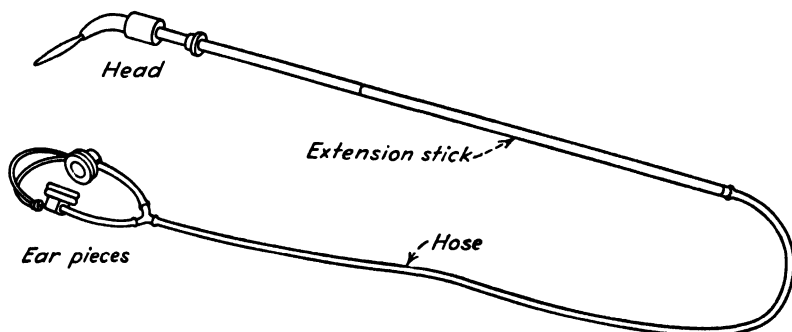

FIG. 21-12. Telephonic-type live pin-type insulator tester showing head, extension stick, hose, and earpieces. (Courtesy Doble Engineering Co.)
**Pin-type Tester.** The pin-type tester is illustrated in Fig. 21-12 and is seen to consist of a head, extension stick, hose, and earphones. It will be noted that one end appears like a bill. This is so formed as to be